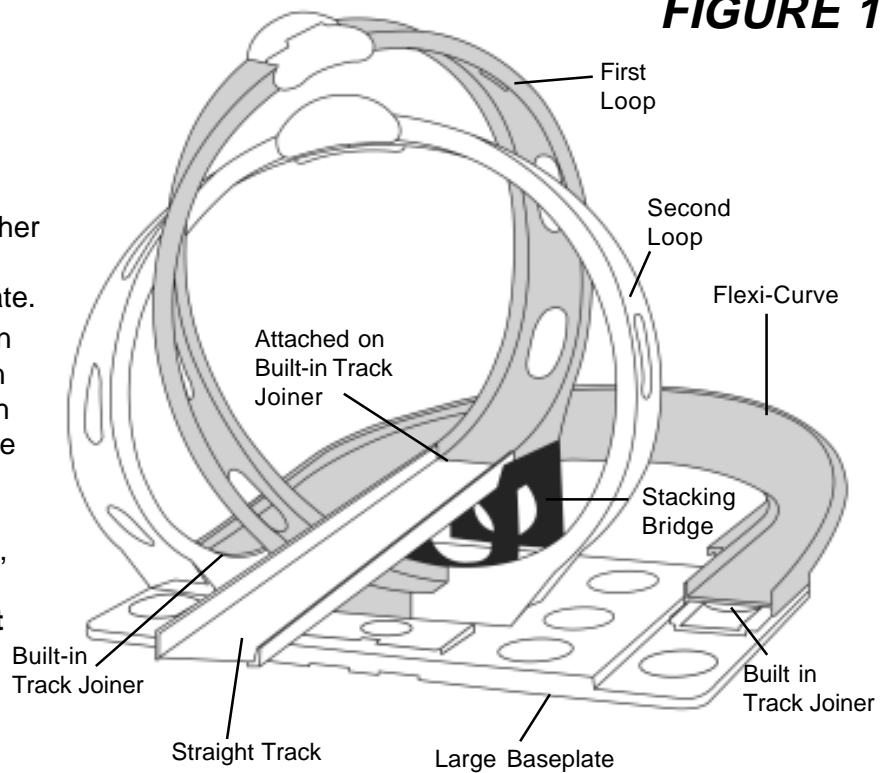

FIGURE 1
- Attach the open end of the straight track from **Figure 1** using the large joiner at the open end of **Figure 3**, as shown in **Figure 4**.